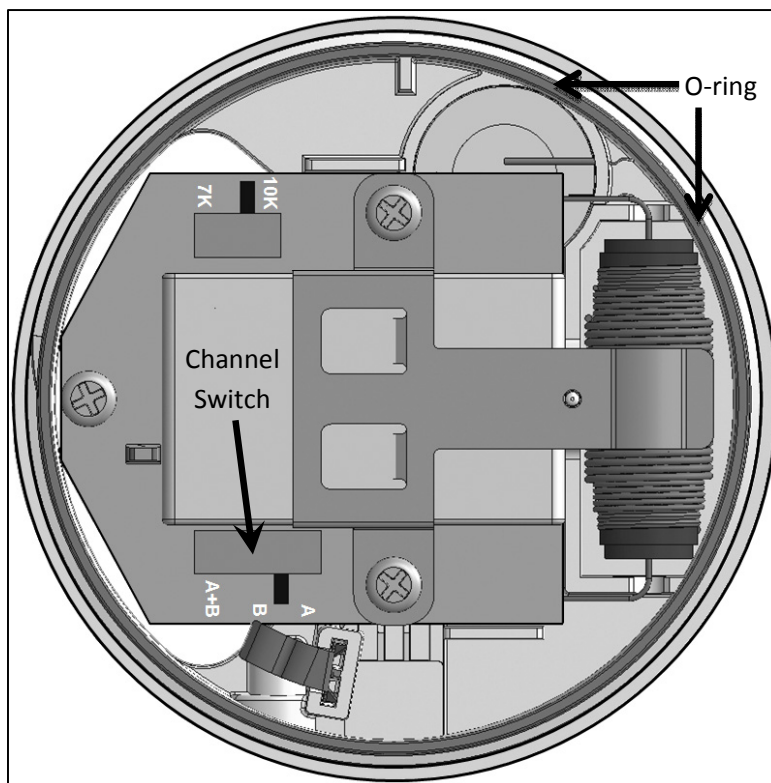

Figure 1
3. Locate the switch for the Channel (A), Channel (B) and Channels (A+B). (Figure 1)
Note: Ensure the O-ring is in the top housing and seated in the channel before replacing the bottom lid. Failure to do so may allow moisture leakage and failure of the device. (Figure 1)